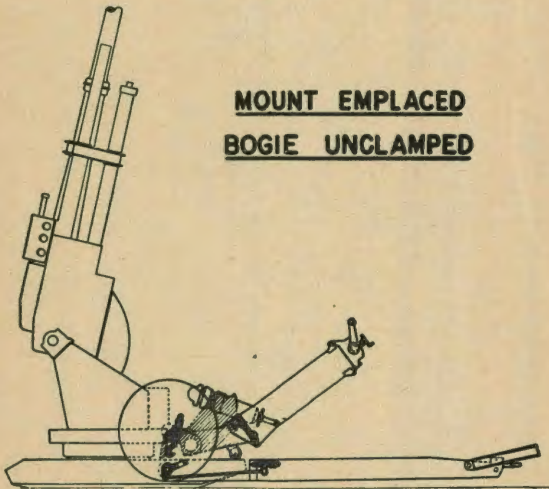

FIGURE 31.
*d.* After the trail is lowered, the bogie engaging eye operating handles (fig. 31) are pushed in to disengage the eyes from the eye hooks and the bogie is rolled out to the end of the trail. This accomplishes emplacement with the exception of leveling which is taken up elsewhere in the manual.